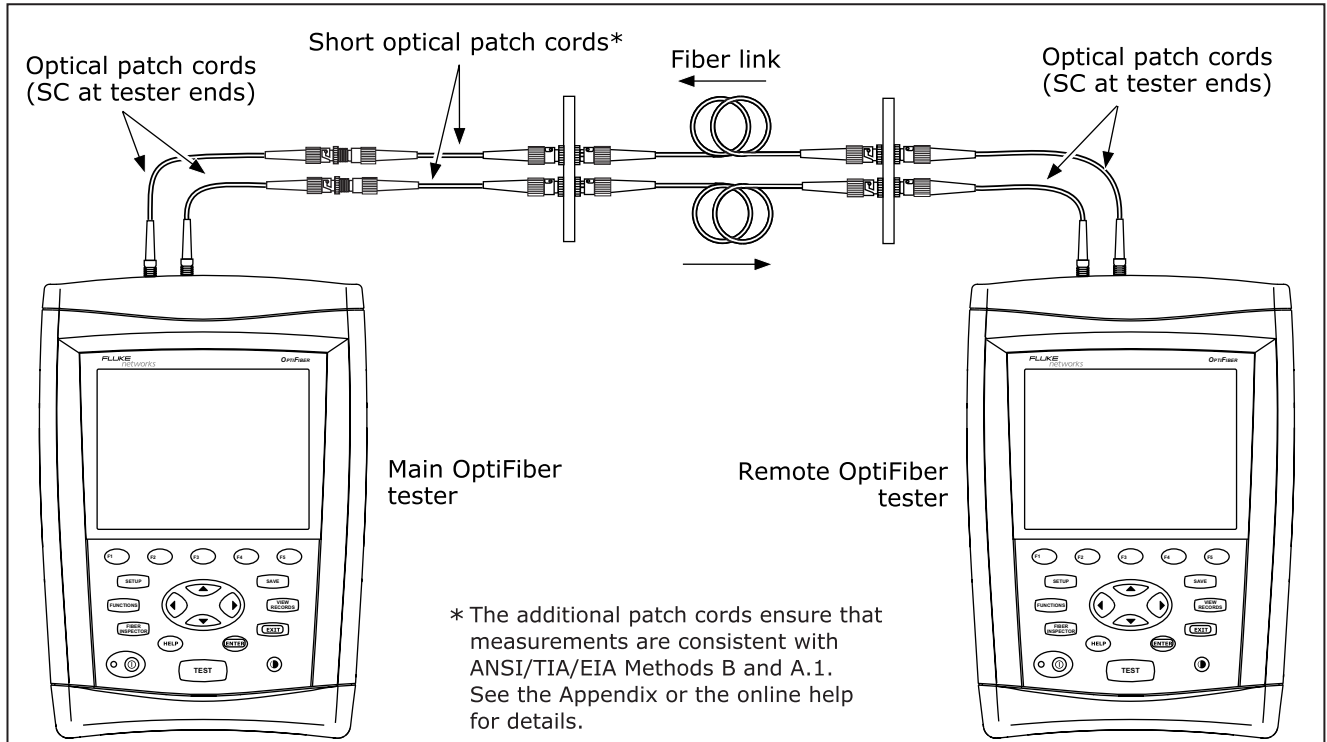

Figure 6-4. Smart Remote Mode Test Connections
- At the beginning of each day using the remote end setup (Figures 6-4 through 6-10) you will use that day. The tester reminds you to set the reference if the reference is more than 12 hours old.
4. Connect the tester to the cabling as shown in Figure 6-4.